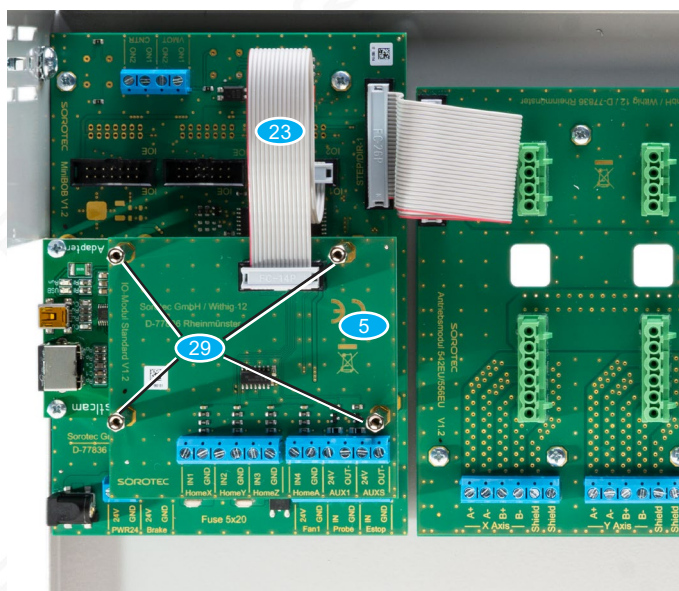

Fig. 14: Mounted MC IO-Module Basic
- Mount the MC IO-Module Basic **5** using four additional spacer sleeves M3 x 20 **29**, as shown in Fig. 14.